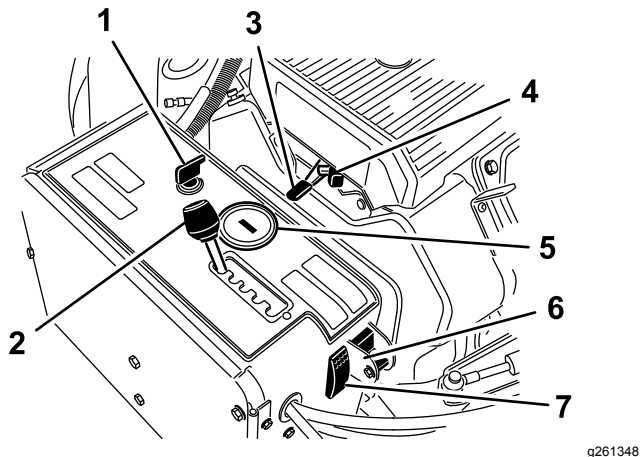

Figure 14
Use the ignition switch (Figure 14), to start and shut off the engine. The switch has 3 positions:
Move aerator spacing lever (Figure 14) to desired hole spacing or to T for transport.
Use the throttle lever (Figure 14) to control the engine speed. Moving throttle lever forward increases engine speed (FAST position); backward decreases engine speed (SLOW position). The engine speed regulates the speed of the coring head and controls the ground speed of the machine.
- When the engine shuts off, the hour meter/tachometer (Figure 14) displays the number of hours the engine has run.
Use the choke when starting a cold engine (Figure 14).
Rotate the switch to the down position to turn off the TrueCore feature (Figure 14). Remove the bolt to access the manual ground switch.
Press the system reset switch (Figure 14) to raise the coring head if the machine becomes disabled (e.g., the machine runs out of fuel).